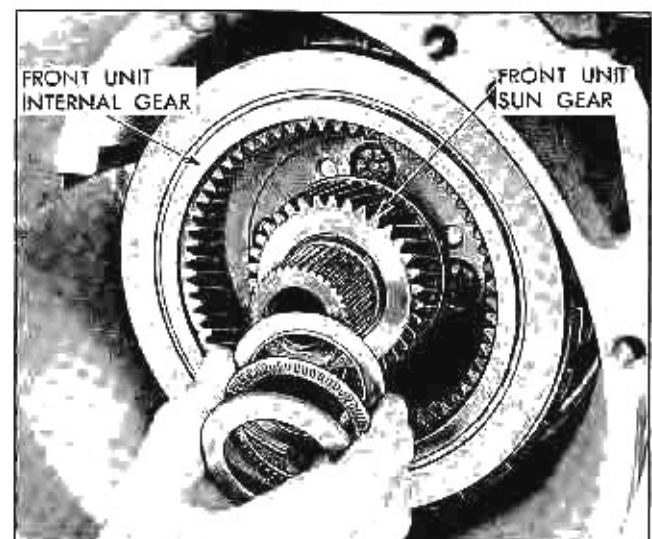

Fig. 61 Front Sun Gear to Front Carrier Thrust Bearing and Races
18. Remove the front unit sun gear assembly, race, roller thrust bearing and race (Fig. 61).